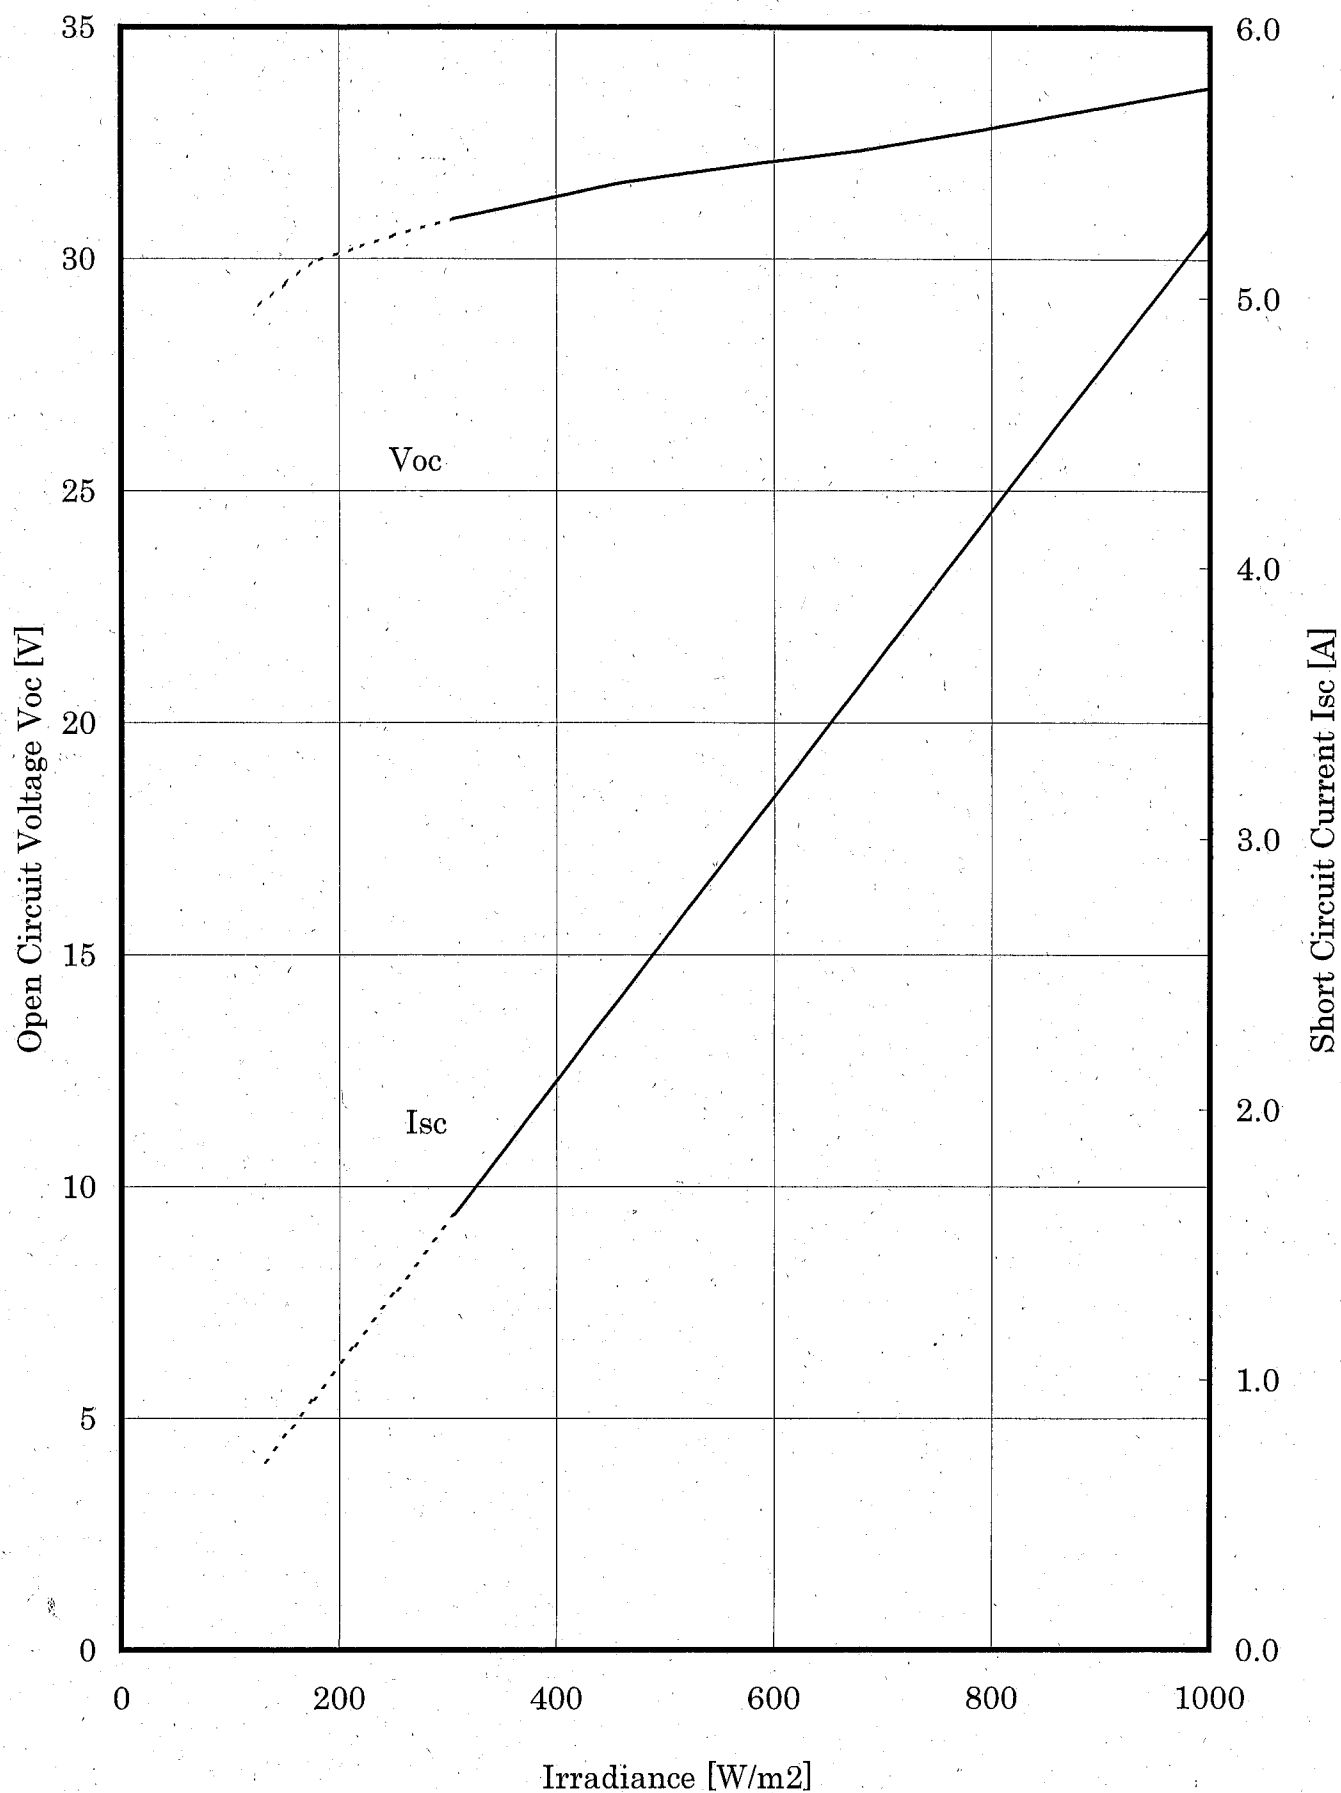

Fig. I -1 Open Circuit Voltage , Short Circuit Current vs. Irradiance Characteristics
- (1) Fig. I-1: Characteristics regarding Open circuit voltage and short circuit current versus Irradiance